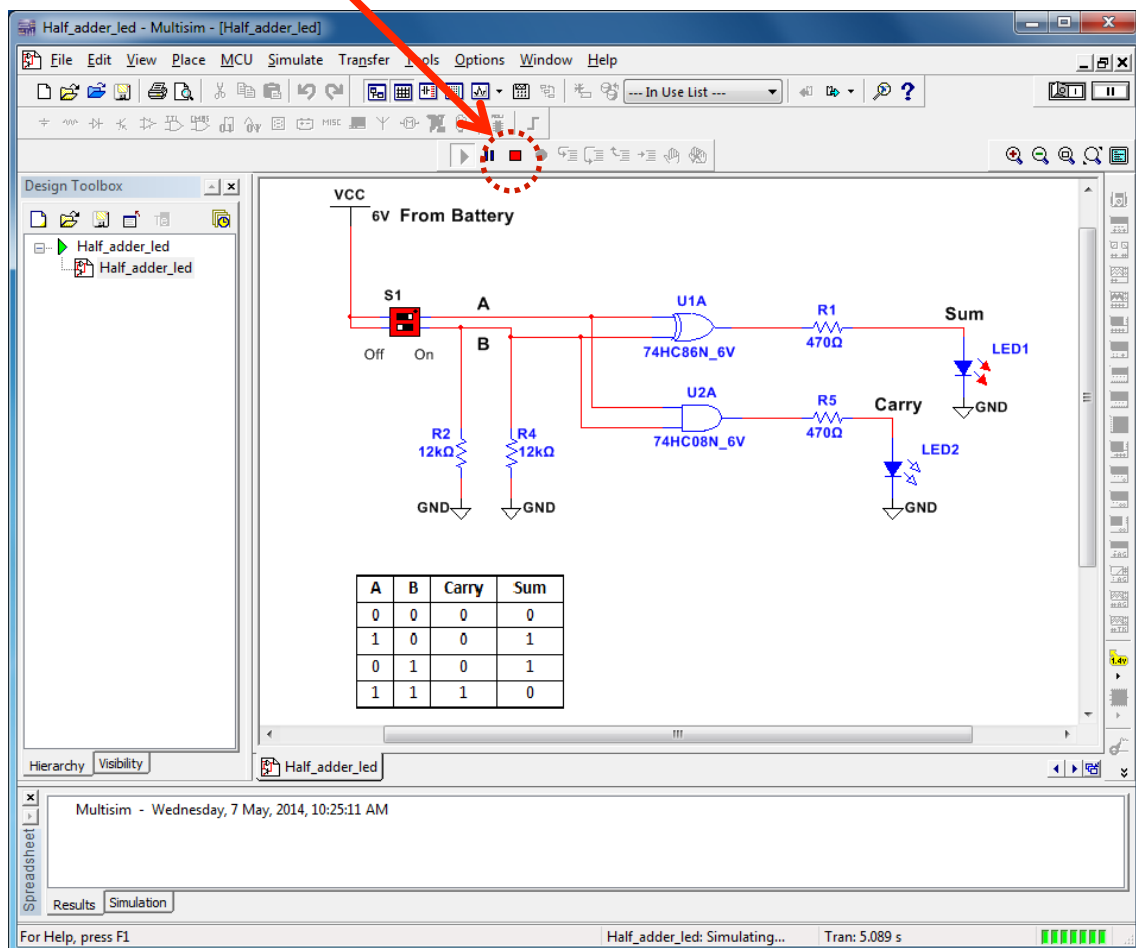

Figure 10: Simulation of the half-adder with A=1, B=0 where Sum=1, Carry=0 (LED1 in red means turn-on)
7. Select **Simulate» Run** or press the Run button in the simulation toolbar to simulate the circuit. As the circuit simulates the half-adder, the LED lights up. The dip switch is an interactive component. Look at what happens when it is turned on/ off, Figure 10.
8. You can try to turn on the switch to verify the circuit as in Figure 10. You can stop the simulation by clicking on the Stop button.